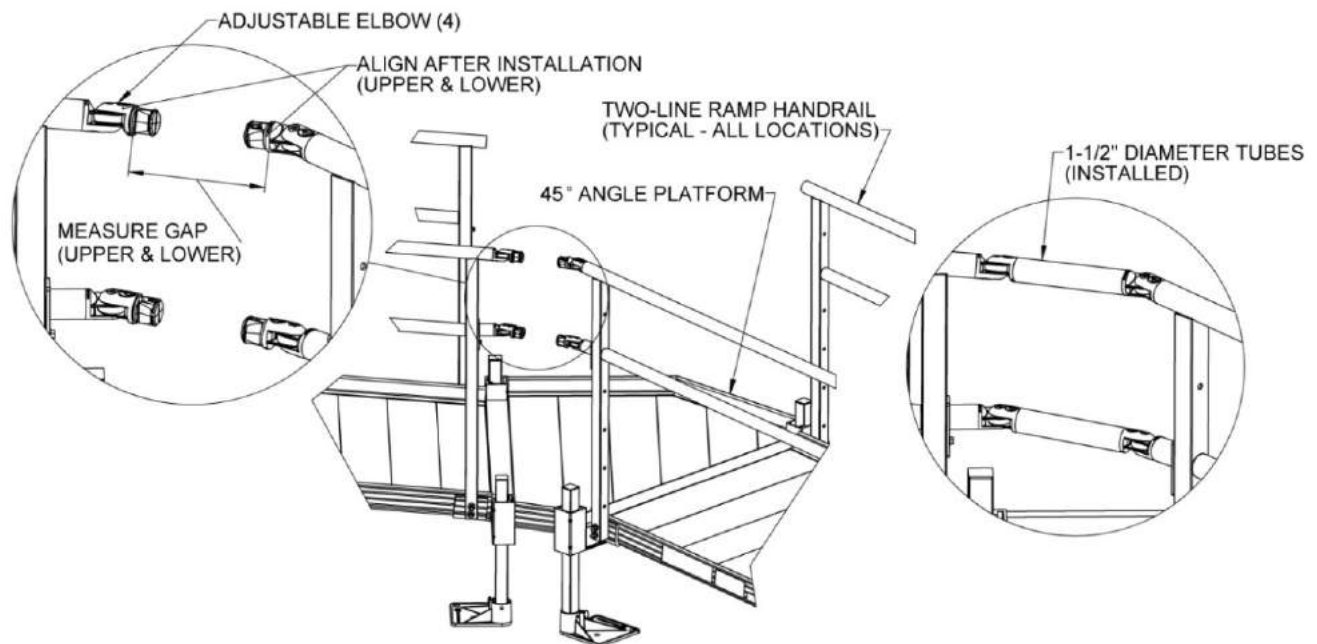

FIG. 4.17
- 4.8.4. Insert adjustable elbows into both the ramp handrails and the Bolt-On Stub Rails (FIG. 4.17).
- 4.8.5. Loosen the elbow assembly screws and position the adjustable elbows so they are aligned with the adjustable elbows on the opposite side (but do not tighten), then measure the distance between the two larger round faces. Measure both upper and lower gaps because they could be different and cut tubes accordingly (FIG 4.17).